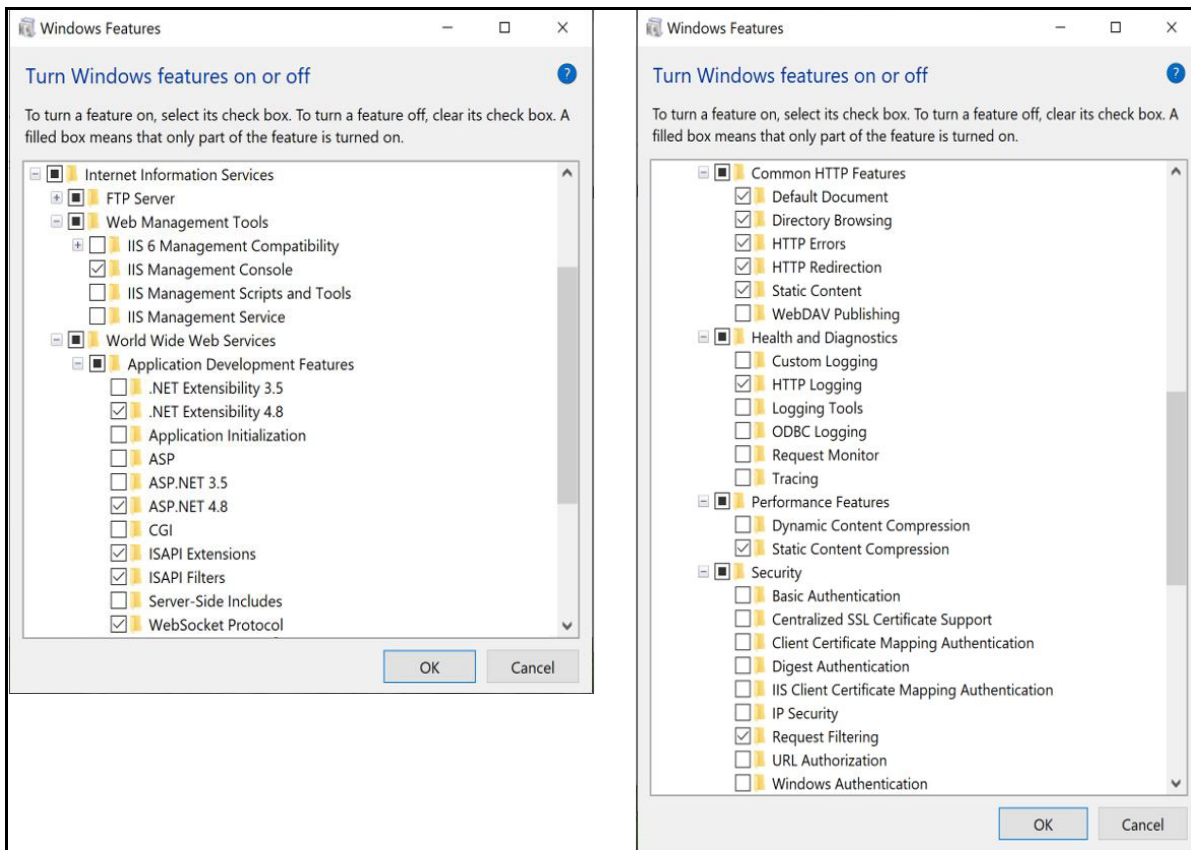

Figure 2-2. Windows Features Configured
- B.2 Expand **Internet Information Services** tree and enable check boxes as displayed in Figure 2-2.